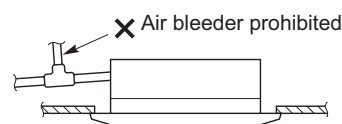

Fig. 2-170
- Make sure the drain pipe has a downward gradient (1/100 or more) and that there are no water traps. (Fig. 2-170)
Do not install an air bleeder as this may cause water to spray from the drain pipe outlet. (Fig. 2-170)